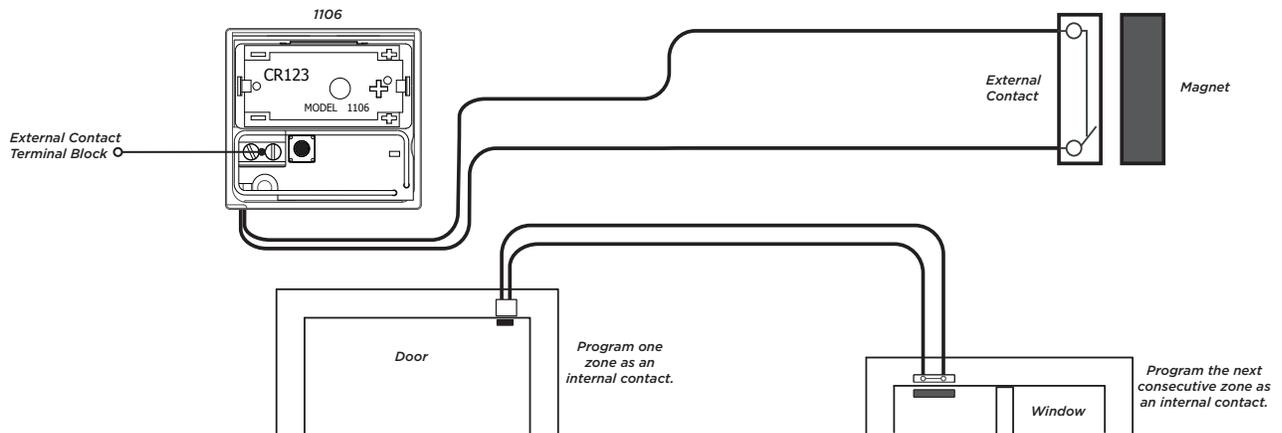

Figure 5: Connect External Contact
2. Use a flat head screwdriver to loosen the two screws on the 1106-WINT terminal block. See Figure 5.